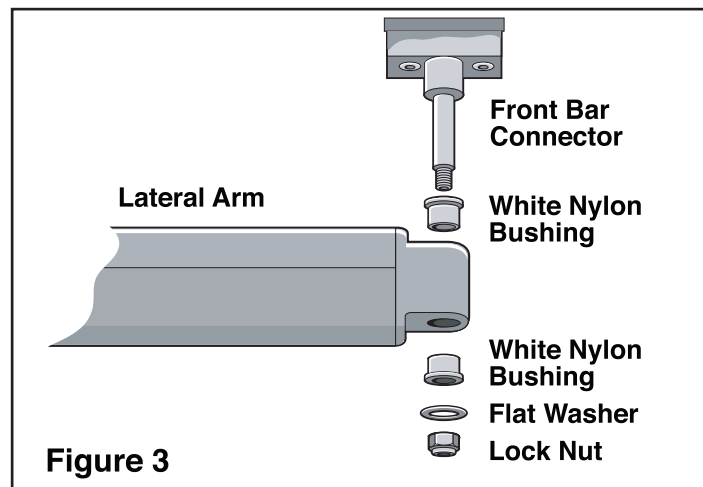

Figure 3
7. Using a 13mm wrench or socket, remove the Lock Nut, Flat Washer and White Nylon Bushing from the Front Bar Connectors. See **Figure 3**.
- Be certain to retain the two White Nylon Bushings that are located in the top holes of the Lateral Arms. See **Figure 3**.